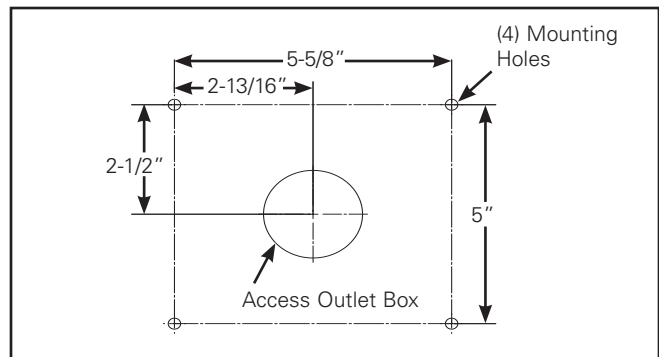

Figure 3.
**Note:** Use drill dimensions (Figure 3.) to mark drill location. DO NOT use back box as the drill guide. Drill four holes into wall surface. Secure back box to wall with 1/4" lag bolts and washers into anchors (anchors supplied by others). Maximum allowable diameter for lag bolt is 1/4". Installer must apply silicone compound around entire perimeter of the back box where it mates to the mounting surface. This will create a water-tight seal between the mounting surface and the back box.